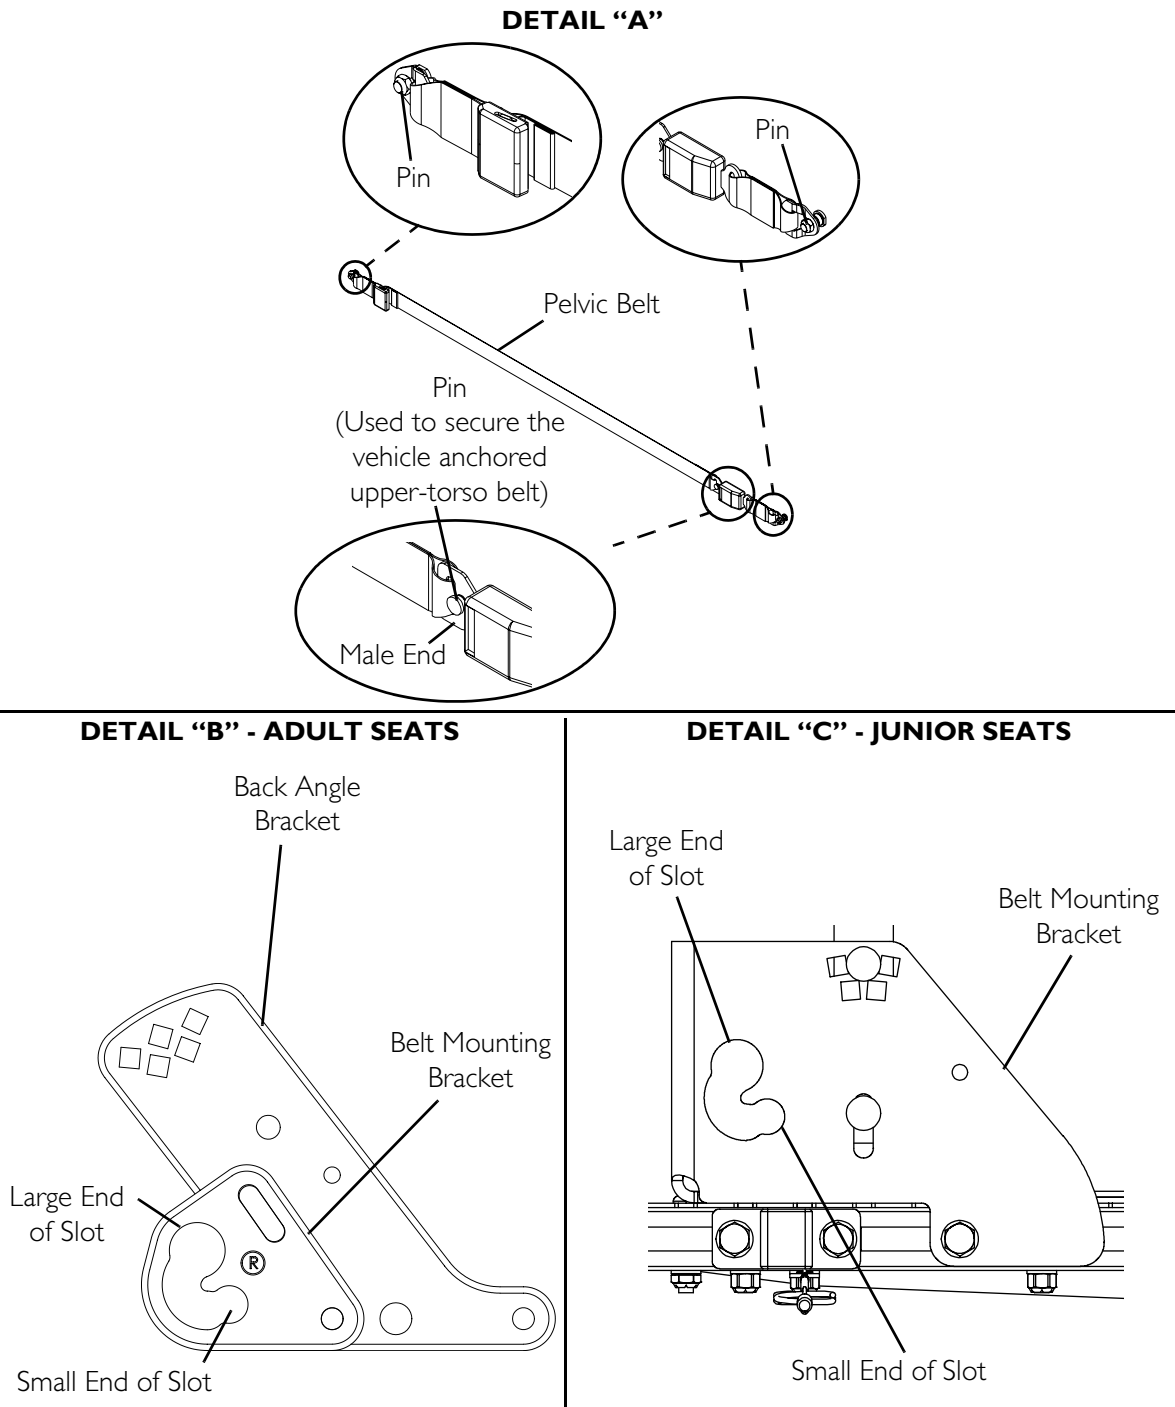

FIGURE 17.2 Wheelchair-Anchored Belts
NOTE: For this procedure, refer to FIGURE 17.2.
1. Install the pelvic belt pin (Detail "A" of FIGURE 17.2) into the large end of the slot in the belt mounting bracket. Rotate downward and forward until it snaps into place into the small end of the slot (Detail "B" or Detail "C").
NOTE: Note the position of the male end of the belt when installing the pelvic belt onto the belt mounting brackets. The male end of the pelvic belt (DETAIL "A" of FIGURE 17.2) has a pin which is used to secure the vehicle-anchored upper-torso belt.